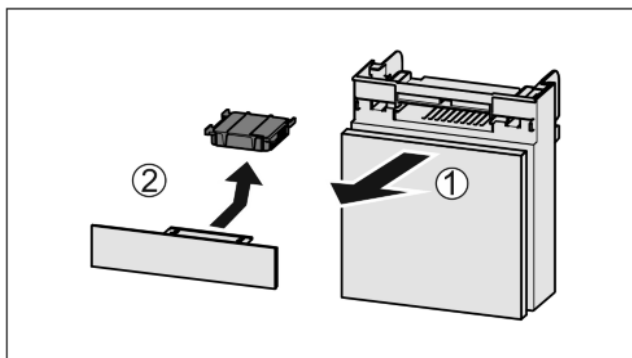

Fig. 41
- Pull out the compartment Fig. 41 (1).
- Remove the carbon filter Fig. 41 (2).